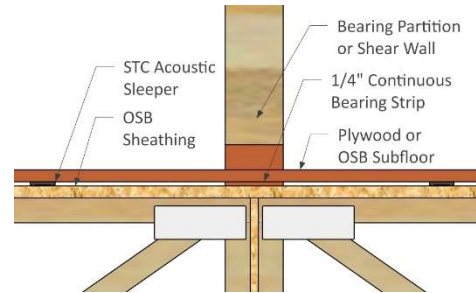

Figure 1: Load-Bearing Partition on Subfloor
2. Load-bearing partitions and shear walls require a continuous 1/4" high bearing strip between the sheathing and subfloor panels, of plywood or OSB, minimum width to match wall plates, centered on bearing walls and shear walls (Fig. 1).